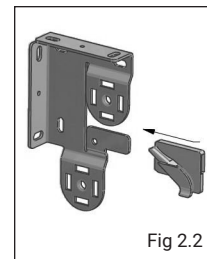

Fig 2.2
4. The chain diverters are marked L–Left and R–Right. Slide the appropriate diverter on as per the image on the right (Fig 2.2). To remove the diverter, a screwdriver can be used to wedge up from the bottom and release from the snap.